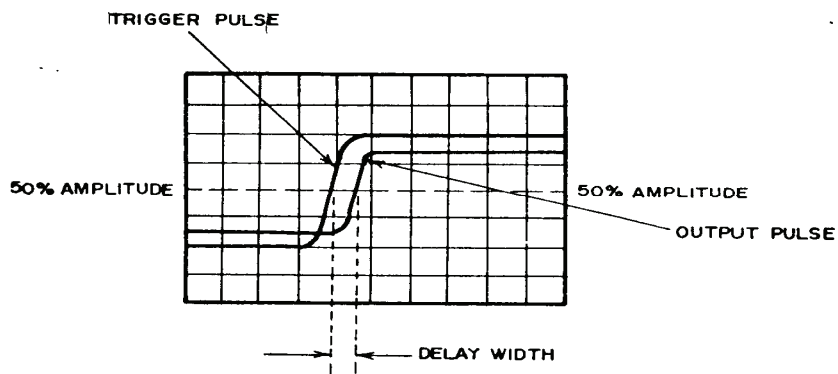

Figure 2. Delay width accuracy.
(2) Press pushbuttons and enter data as listed in (a) through (i) below (both channels for option 020).
(3) Measure delay, between trigger output and pulse at 50 percent amplitude as indicated on oscilloscope (fig. 2). Delay will be ≤ 1 ns.